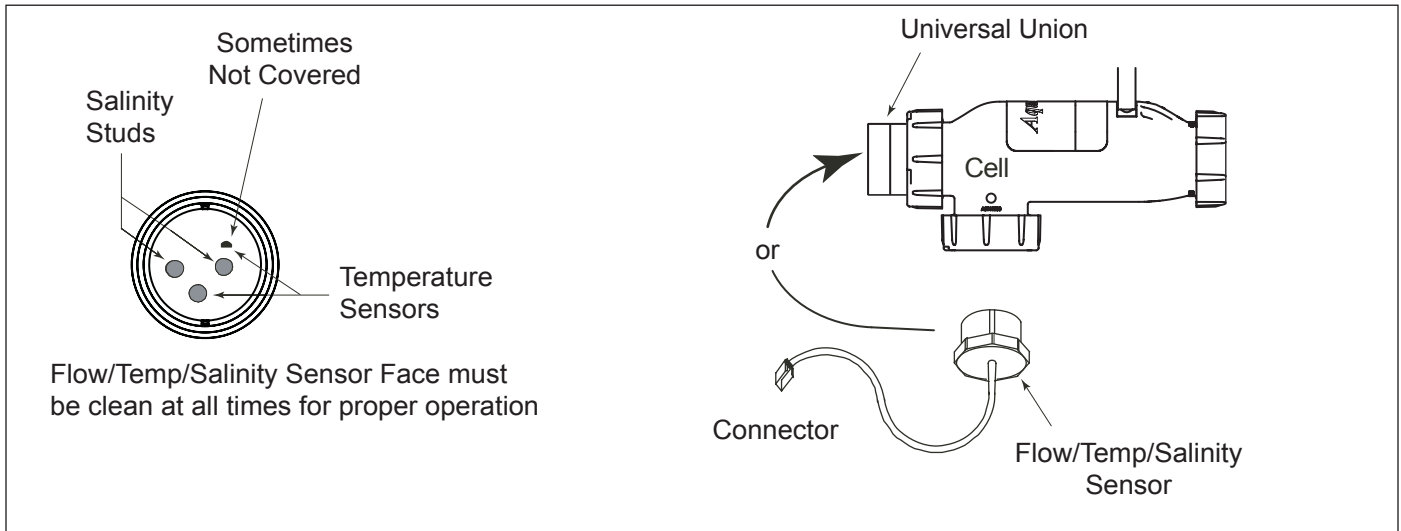

Figure 8. Flow/Temp/Salinity Sensor
The Flow/Temp/Salinity Sensor must be mounted as shown on page 12 Figure 8.
- Mount as shown in Figure 8. This will result in the most reliable operation.
- (1) in the same line as the Electrolytic Cell.
- (2) with no valves or diverters between the Flow/Temp/Salinity Sensor and Cell.